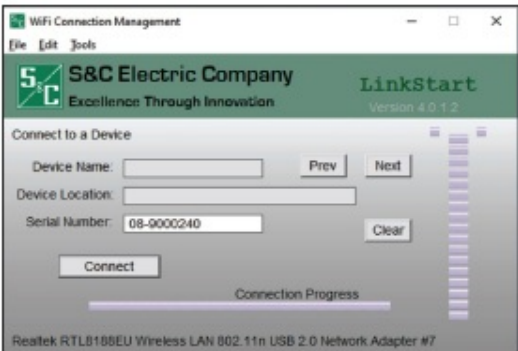

Figure 22. The Wi-Fi Connection Management screen.
- STEP 1. In the Windows® 10 Start menu, select Start>Programs>S&C Electric > LinkStart> LinkStart V4. The Wi-Fi Connection Management screen will open. See Figure 22.
- STEP 2. Enter the serial number of the IntelliRupter fault interrupter and click on the Connect button. See Figure 22.